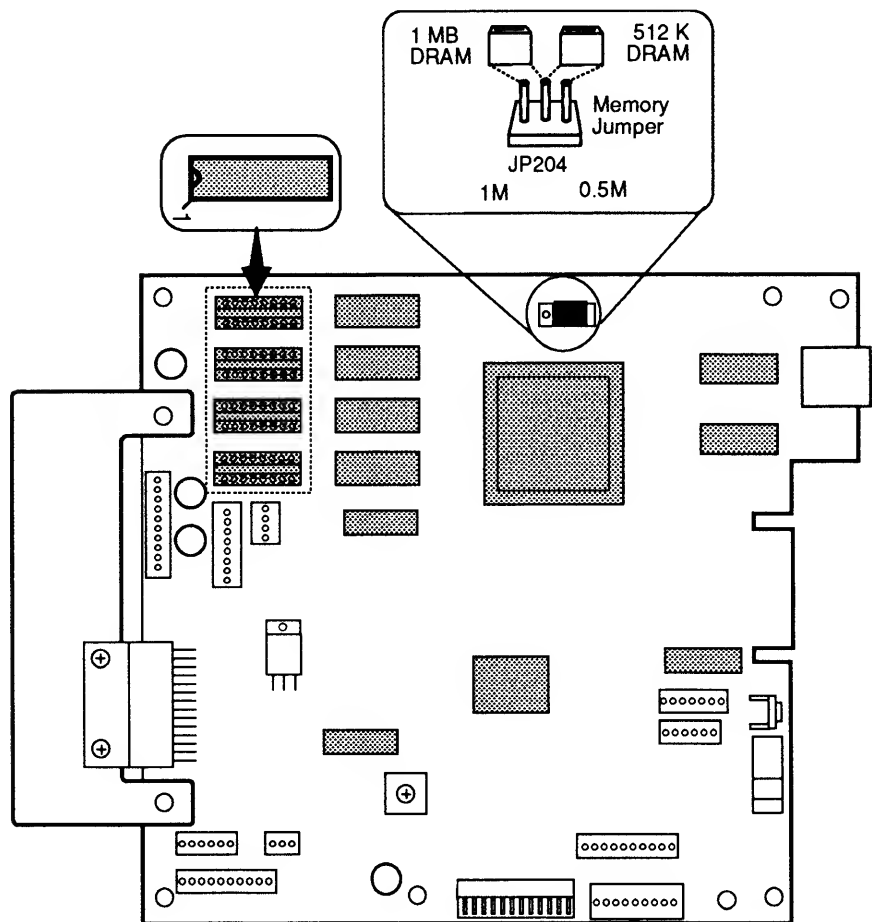

Figure 6-3 LaserWriter LS/L Memory Upgrade
2. Place the four 256K x 4, 150 ns (or faster) DRAM chips in position as shown in **Figure 6-3**.
3. Position jumper JP204 over the two pins nearest the **1M** marking on the serial controller (**Figure 6-3**).